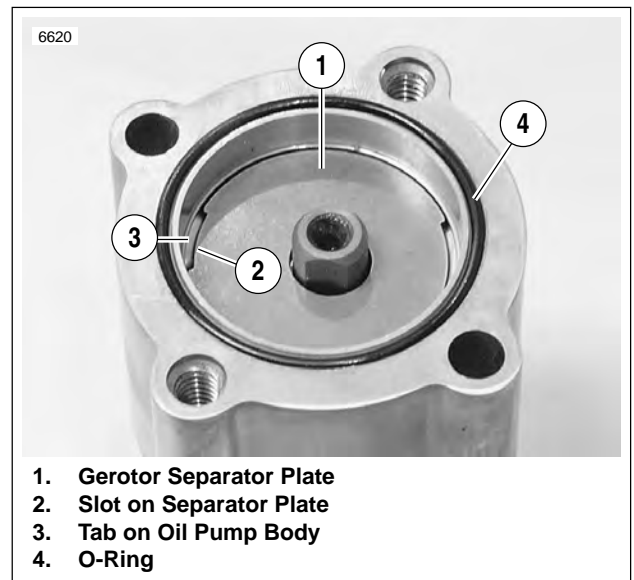

Figure 3-54. Separator Plate Slots
- Insert inner gerotor of the gerotor scavenge set (9) over gear shaft.
- Place outer gerotor over inner to complete scavenge set (9).
- See Figure 3-54. Position gerotor separator plate into case and line up slots on perimeter with tabs inside oil pump body.
- Place gerotor feed set (7) over gear shaft (11).
- Install a **new** O-ring (14) into groove in cover (6). Place cover onto pump body. Install T27 TORX cover screws (2) with washers (3). Tighten to 125-150 **in-lbs** (14-17 Nm).
- Place **new** mounting gasket (10) in position.